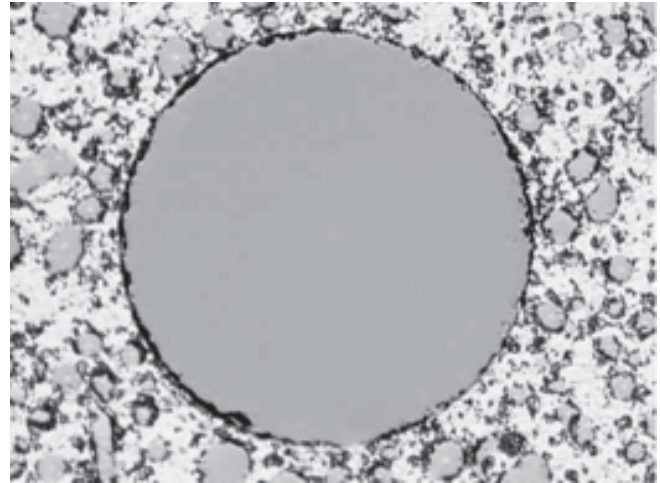

Figure 1
- h) At the completion of the polishing inspect the ferrule end-faces with a microscope. Figure 1 shows a typical finish.